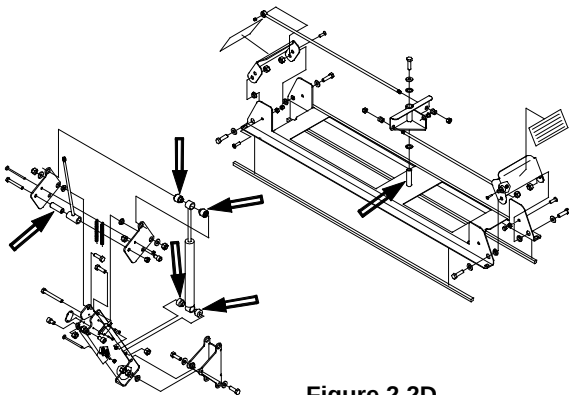

Figure 2.2D
- ☐ The damper bearings, the pivot shaft of the CPR support, and the activation rod pivot sleeve (see fig. 2.2D, page 15) all from the instant CPR release mechanism.